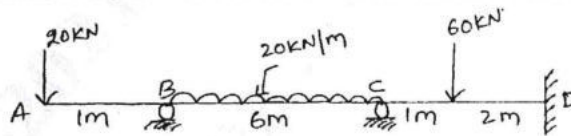

Fig. Q3
- 3 Analyze the continuous beam by moment distribution method shown in Fig. Q3. The support 'C' sinks by 9 mm. Take  $EI = 1000 \text{ kN-m}^2$ . Draw BMD and Elastic curve. (16 Marks)